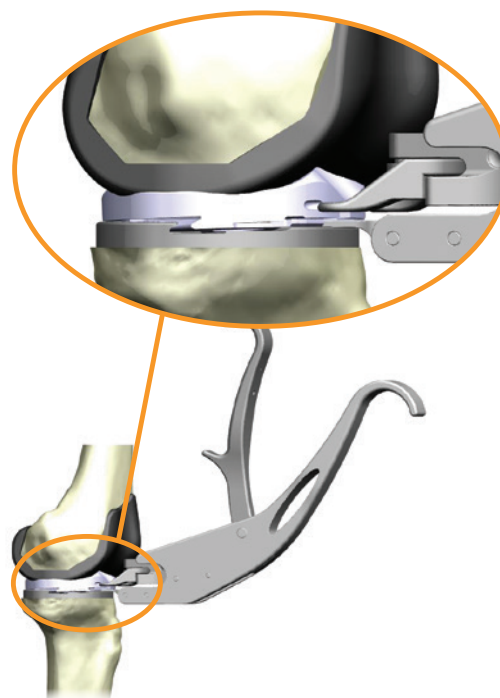

Figure 55
3. Insert the tip of the Articular Insert Assembly Tool into the center notch of the anterior lock detail (handle up) and engage the two tabs of the Tool into the two recesses on the anterior periphery of the insert (Figure 55).